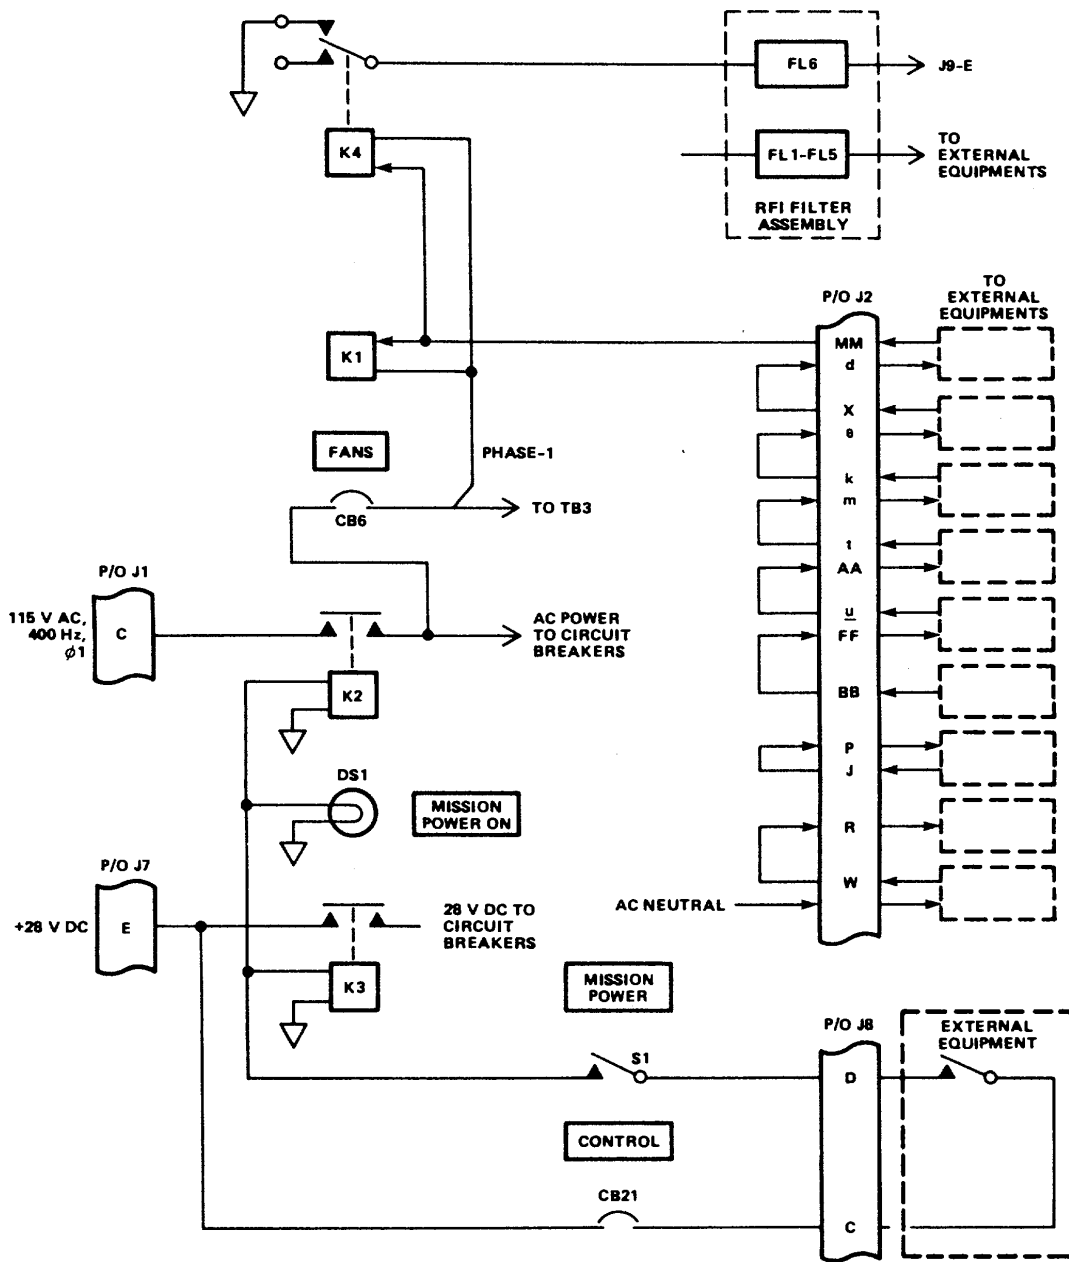

Figure 3-1. Control Circuits, Simplified Schematic Diagram
a. Control Circuits. The ac and dc control circuits consist of relays K1 thru K4, switch S1, circuit breakers CB6 and CB21, and interlock jumpers on connector J2. As shown in figure 3-1, external equipments and switch functions are required to complete operation of the control circuits.
(1) DC Control Circuit. The +28 V dc input is applied to the power distribution box at connector pin J7-E. DC return is provided at connector pin J7-B. The input passes to the dc control circuit when CONTROL circuit breaker CB21 is set to on (in), the closure is made between connector pins J8-C and J8-D (normally switched by external equipment), and power distribution box MISSION POWER switch S1 is set to ON. The dc input illuminates MISSION POWER on lamp DS1 and operates relays K3 and K2. When relay K3 operates, contacts A1 and A2, B1 and B2, and C1 and C2 close to pass the +28 V dc input to circuit breakers CB9 thru CB20 in the dc power distribution circuit. When relay K2 operates, contacts A1 and A2, B1 and B2, and C1 and C2 close to pass the 115 V ac input to circuit breakers CB1 thru CB8 in the ac control and power distribution circuits.